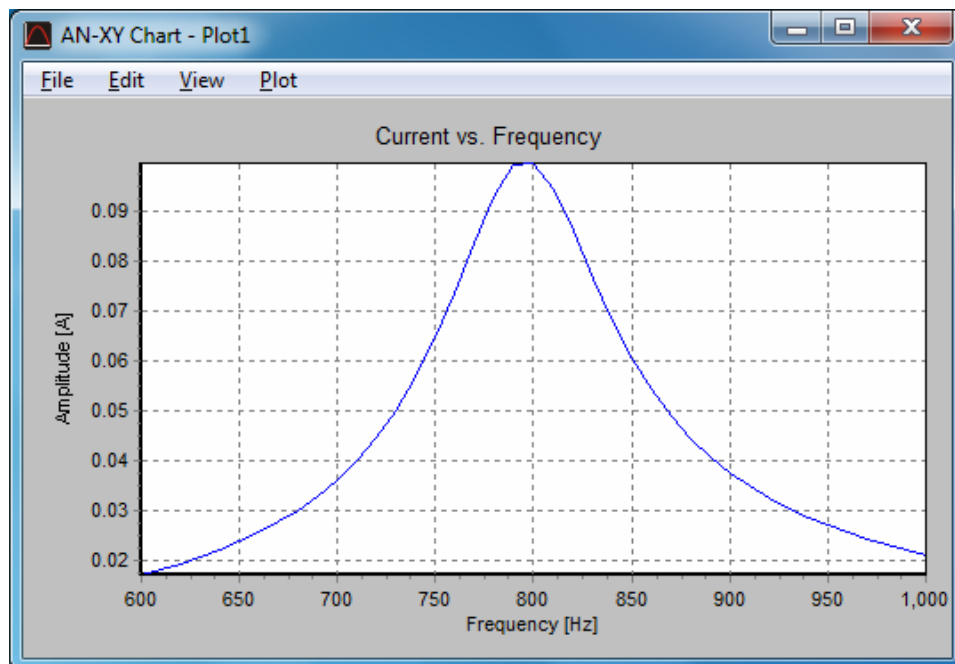

Fig. 14.18: Current amplitude vs. frequency in the RLC circuit.
Step 4: Select any of the three wires composing the circuit and follow the procedure described in Section 13.3 for plotting the current on a wire segment as a function of frequency, Fig 14.18. Due to the circuit topology, the electric current must be the same in the three wires. As can be seen, resonance occurs at a frequency near 800 Hz. In fact, the value 796 Hz can be verified by simulating at this single frequency.